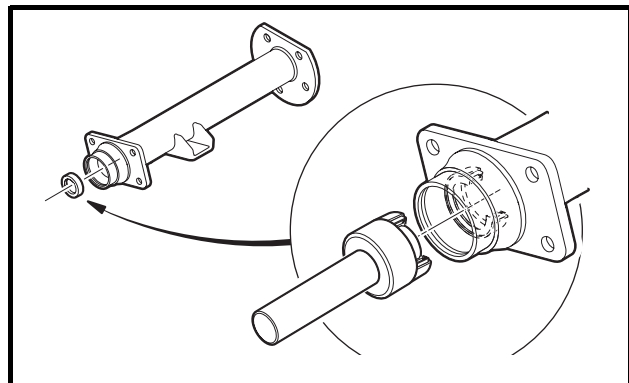

Figure 23-4 Axle Seal and Adapter Ring Installation
- 1.5. Place the oil seal and adapter ring assembly into the axle tube with the seal lip facing away from the bearing (**Figure 23-4, Page 23-2**). Use an axle seal tool (CCI P/N 1014162) and mallet to tap it in until it seats firmly in position. **See following CAUTION.**